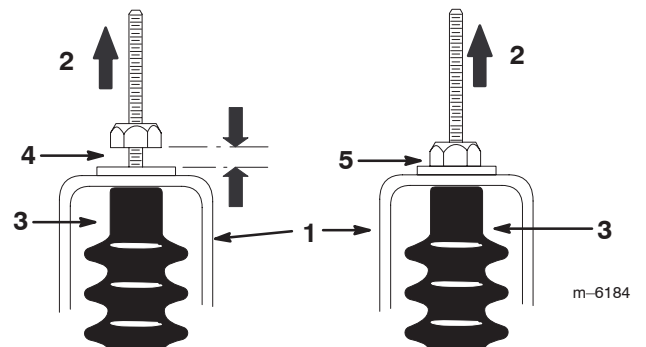

Figure 27
5. Pull up on each shift cable and ensure that there is no gap between the nut/washer and the neutral bracket (Fig. 27). If there is a gap, tighten the nut.